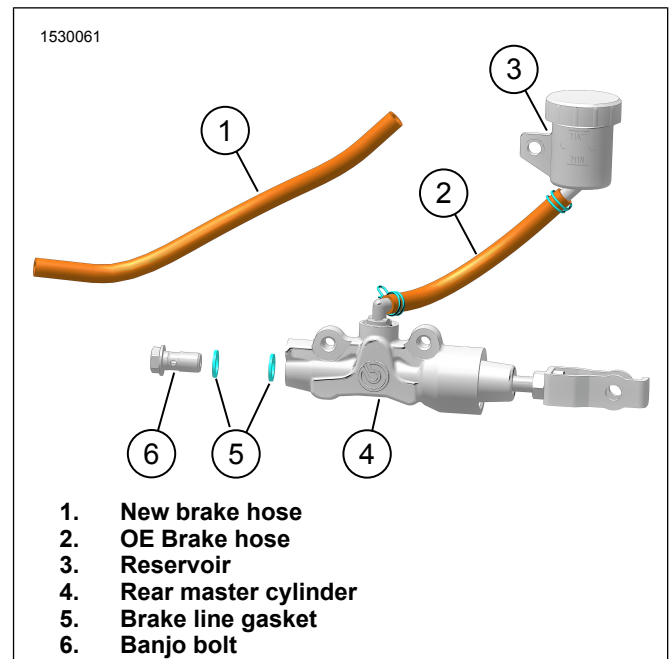
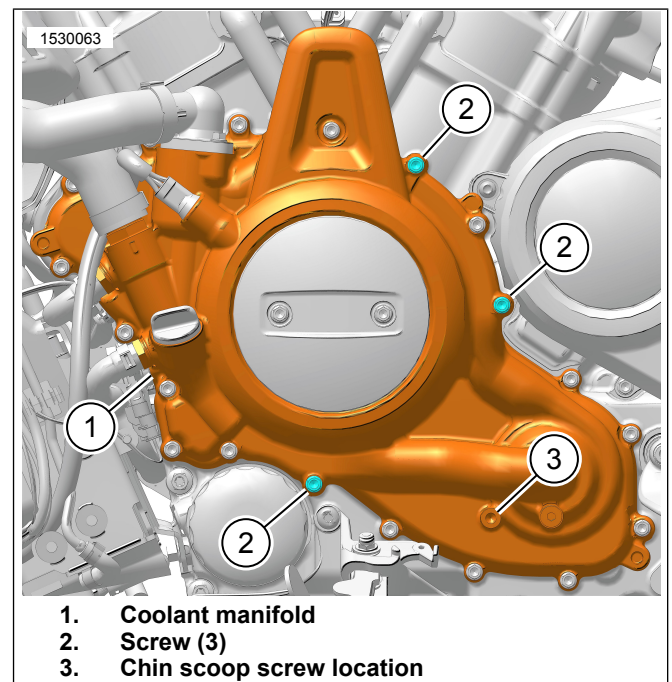

Figure 2. Rear Master Cylinder
Figure 3. Coolant Manifold
7. See Figure 2. Replace rear master cylinder brake hose.
- a. Remove OE brake hose (2) and discard.
- c. Install new brake hose (1) from kit.
8. See Figure 3. Remove three screws (2) from coolant manifold (1) and discard.